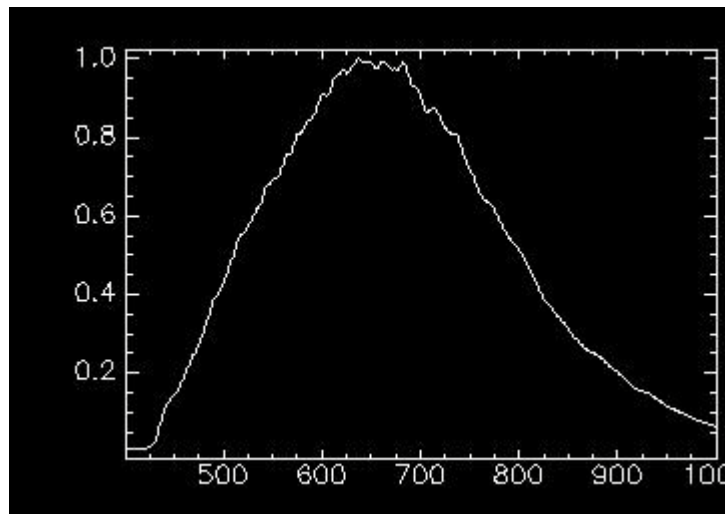

Figure 58. Normalized lamp spectrum
6. The normalized lamp spectrum is plotted (see Figure 58)